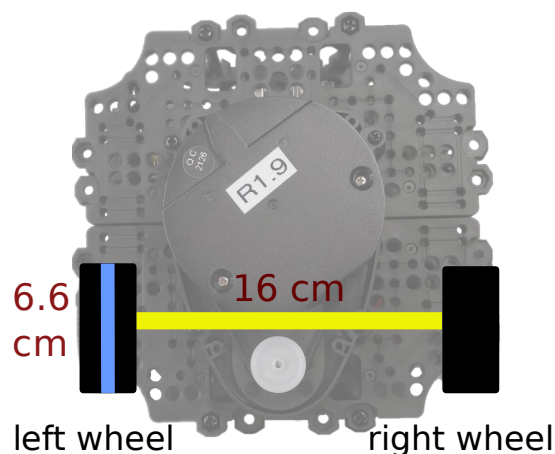

Abbildung 3: TurtleBot 3 Burger robots have a track width of 16 cm and each of its wheels has a diameter of 6.6 cm.
- The distance between the wheels (known as **track width**) is 16 cm and the **diameter** of each wheel is 6.6 cm (see Figure 3). You can also check “Section 1.1.2.1 Data of TurtleBot3 Burger” of the e-manual for a diagram showing the robot’s dimensions (link here).